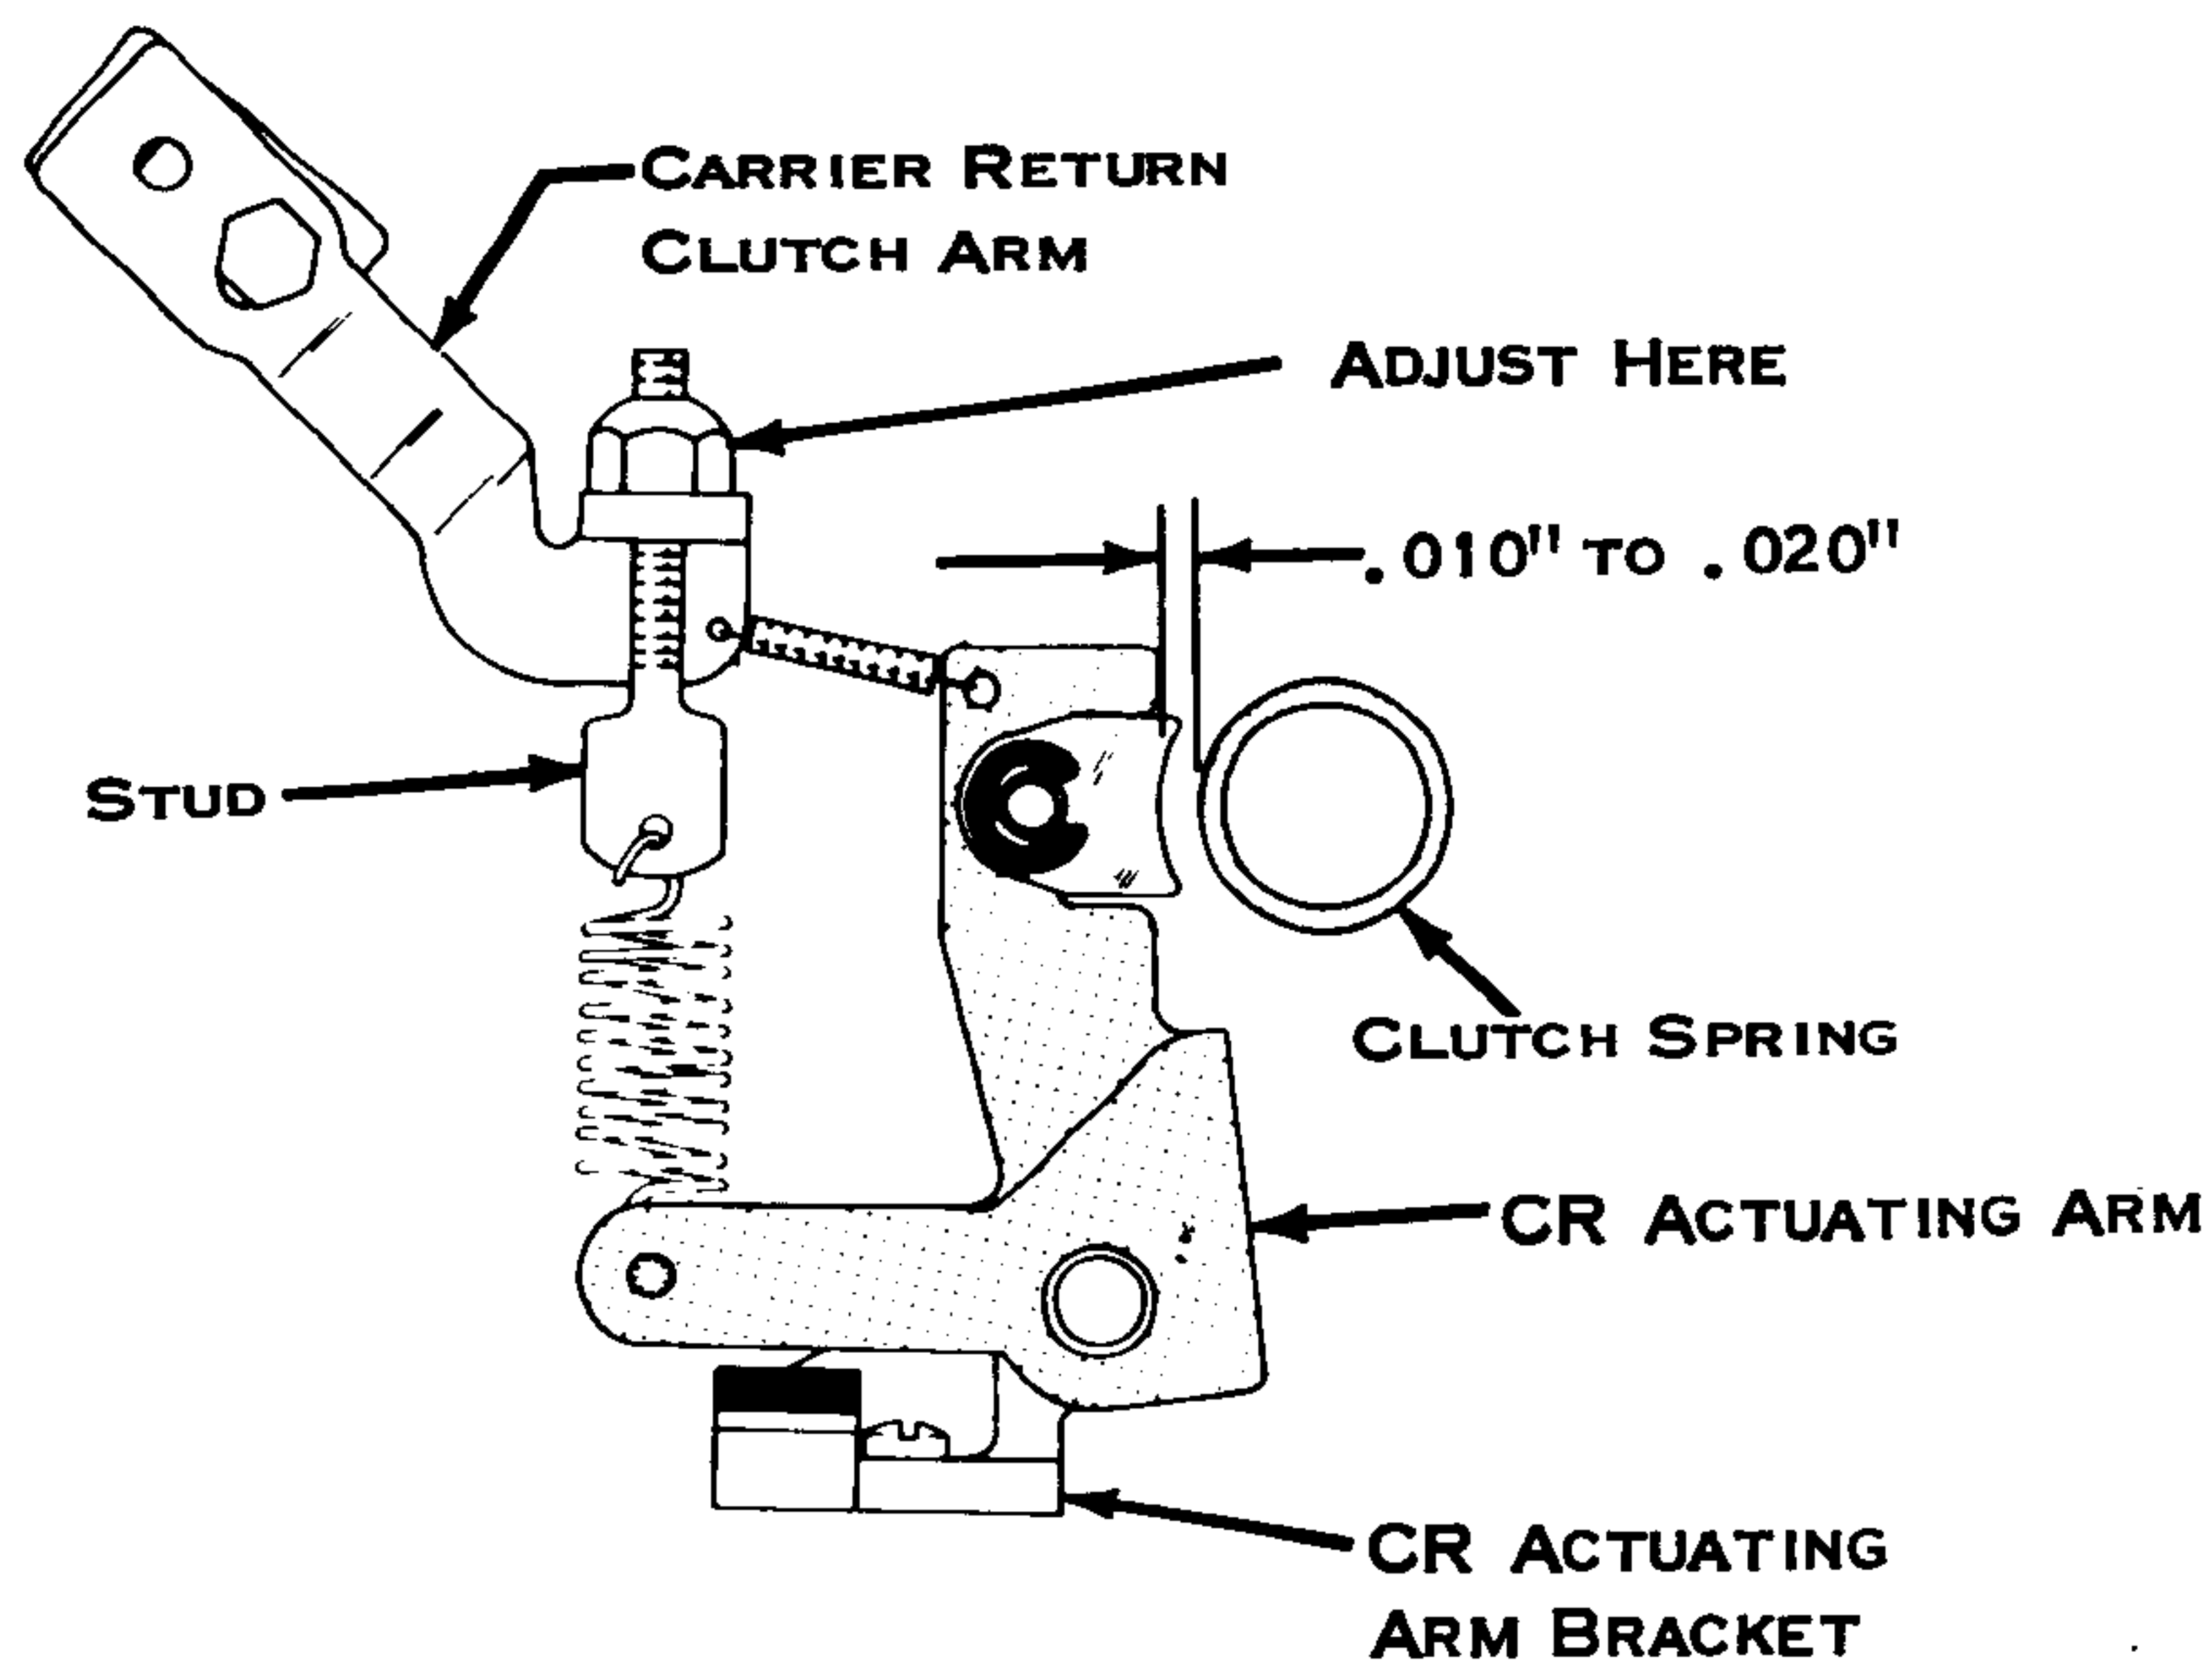

Figure 182. Carrier Return Actuating Arm
- Carrier Return Actuating Arm (Fig. 182) - Adjust to provide a clearance of .010" to .020" between the shoe and the clutch spring with parts at rest.